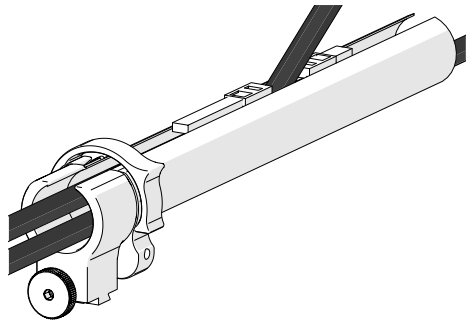

Fig. 92 - Flexibility
4. When necessary, the two zippers may be opened to allow cables to exit the tube anywhere between the ends (*Fig. 92*).